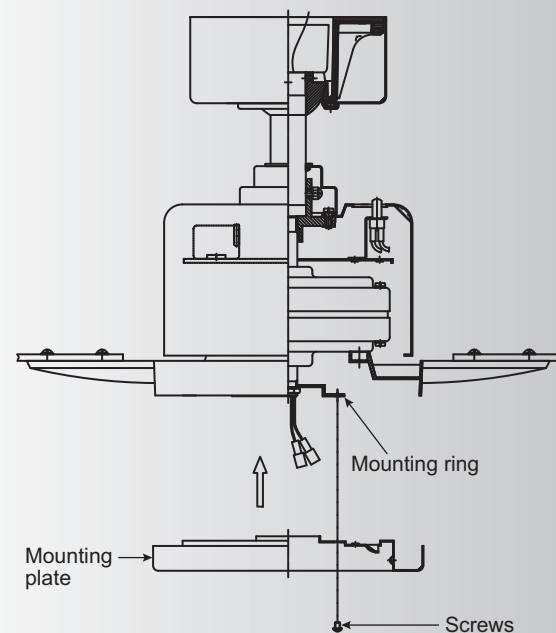

Fig. 17
1. Loosen the two screws on the mounting ring attached to the motor shaft and "remove" and save the third screw. (Fig. 17)
2. Place the key holes on the mounting plate over the 2 screws previously loosened from the mounting ring, turn mounting plate until it locks in place at the narrow section of the key holes. Secure by tightening the 2 screws previously loosened and the one previously removed. (Fig. 17)